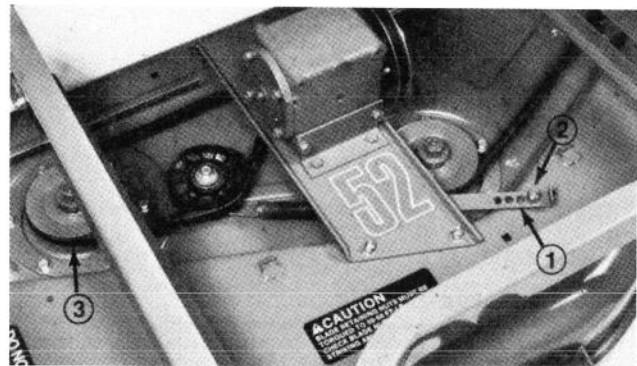

Figure 1
2. Remove nut securing spring anchor to capscrow on deck. Lift anchor off capscrow and allow belt to relax (Fig. 1).
3. Remove belt from right spindle pulley (Fig. 1).
9. Adjust belt tension by pulling spring anchor until 30–40 lb. of force is applied to spring. Slide spring anchor over capscrew in appropriate mounting hole and install nut (Fig. 1).